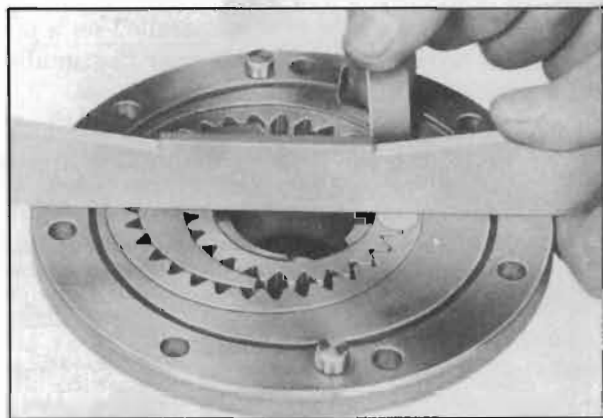

Figure 4-105—Checking Side Clearance of Gears in Pump Body
6. Place a straight edge on face of pump body and check side clearance of gears with feeler gauge. See figure 4-105. Clearance should be .001" to .0025" on front pump and .001" to .002" on rear pump.